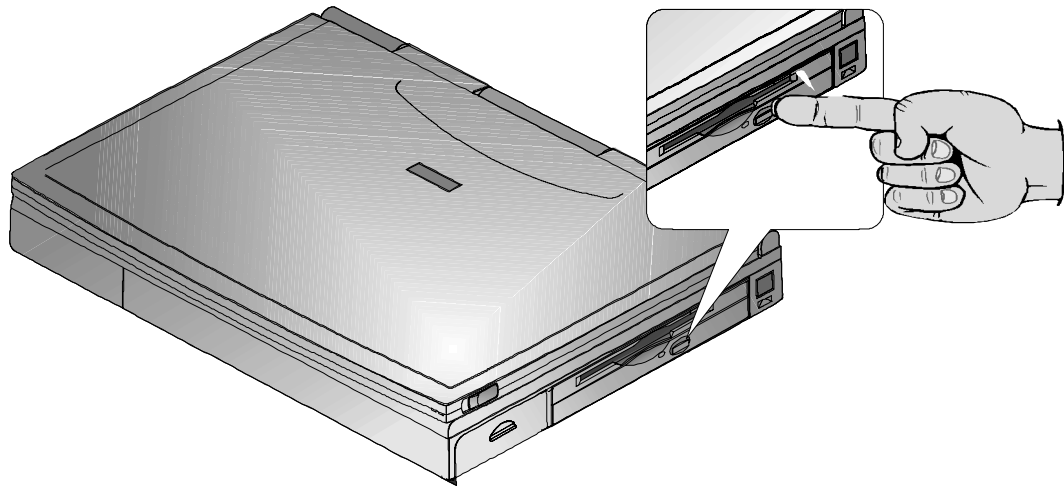
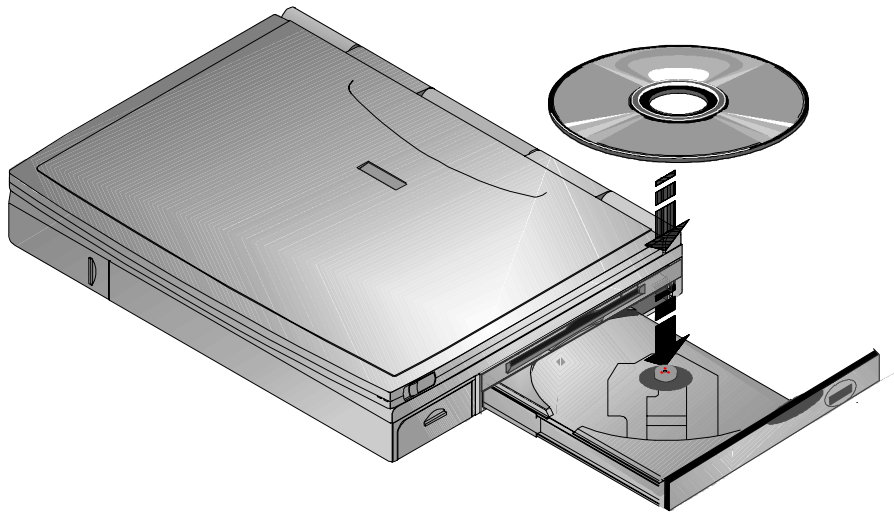

Figure 6-5: Ejecting the CD-ROM Tray
Figure 6-6: Loading a CD into the Combination Module
To load a disc into the CD-ROM/FDD Combination module, please refer to figure 6-5, figure 6-6 and the following instructions.
1. Press the eject button. The motorized tray ejects from the drive. (Figure 6-5)
2. Place the disc into the tray with the CD's label facing up. (Figure 6-6)